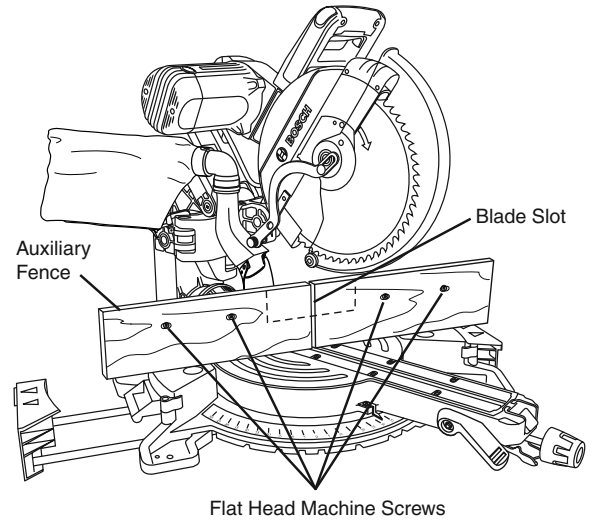

Figure 37. Auxiliary Fence
1. Place a piece of wood against the miter saw fence (see Figure 37). Wood can have a maximum height of 5-1/2". Check that auxiliary fence assembly does not interfere with head assembly. See dimension drawing – Figure 38.
4. Fasten from front of fence: Attach (each) auxiliary fence using two (2) 3/16" flat head machine screws. With 3/4" auxiliary fence, use 1-1/2" long screws. Secure behind metal fence with washer and machine nuts.